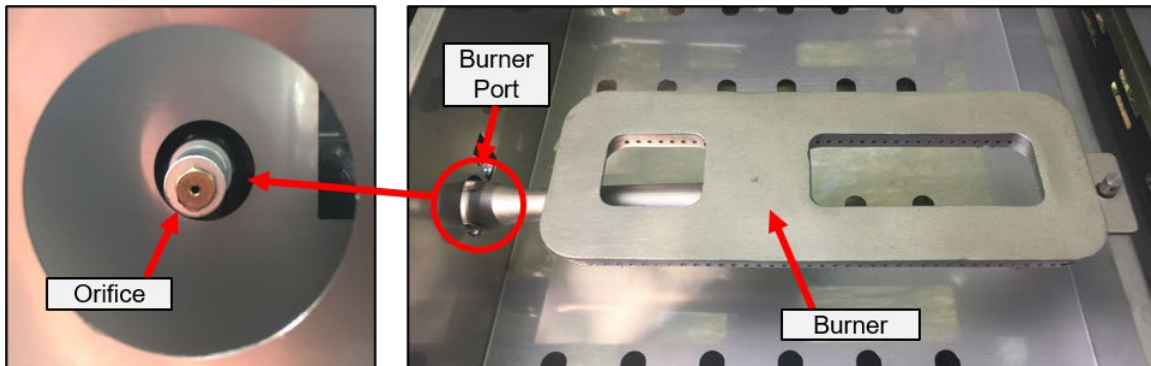

Figure 30 Main Burner Orifice
5. Use a shallow 6mm socket and handle to reach into the burner opening and carefully remove the brass orifice screwed into the end of the valve stem (Figure 30)